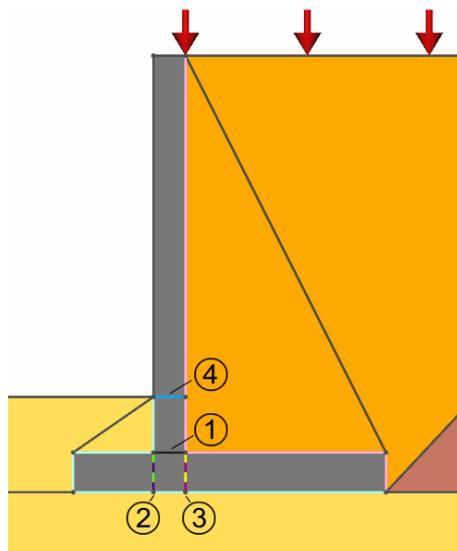

Figure 2: Cantilever wall - details of internal boundaries where yield is to be checked
- 4) Define the strength of the wall as listed in Tables 3 and 4 using **Tools/Create New Material...** Apply created materials to the appropriate internal wall **Boundaries** by drag and drop. Note that in this example these internal boundaries are defined only at the junction of the stem (1), toe (2) and heel (3) and in the stem at the soil surface level (4) on the passive side of the wall (see Figure 2). These correspond to the locations where bending and/or shear failure might be expected to occur in the wall. It will be necessary to create a combined material on these boundaries to accommodate modelling of both shear and bending.